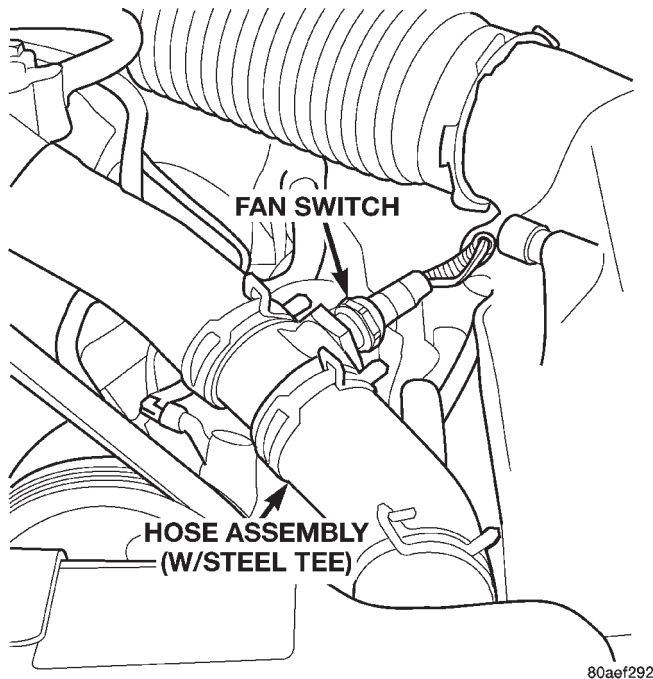
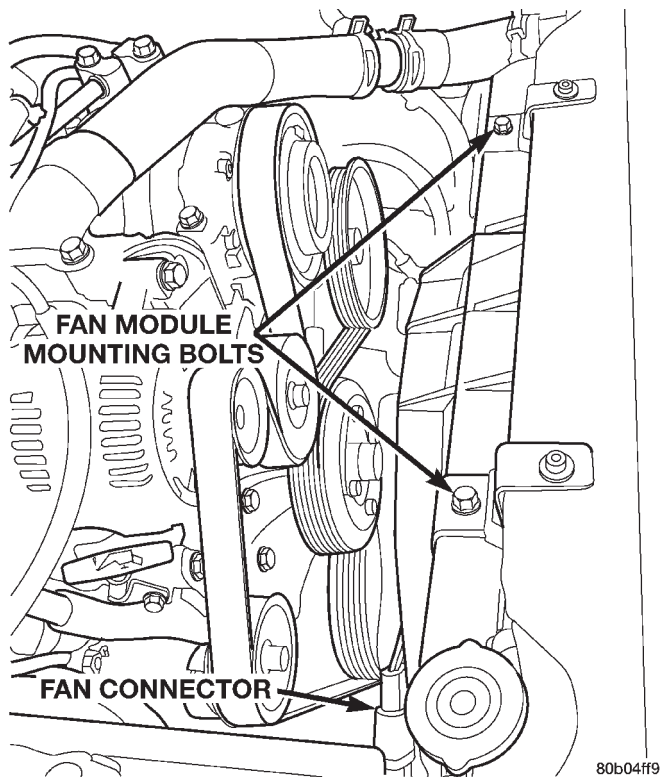

Fig. 69 Upper Hose Coolant Switch
Fig. 70 Fan Module Removal/Installation
(1) Disconnect battery negative cable.
(2) Partially drain cooling system to allow upper radiator hose removal from radiator.
(3) Disconnect upper hose coolant switch connector (Fig. 69).
(4) Remove clamp from upper hose/radiator connection and remove hose from radiator inlet only. Secure hose out of way.
(5) Disconnect the cooling fan electrical connector (Fig. 70).
(6) Remove cooling fan module mounting bolts (Fig. 70).
(1) Lower fan module into engine compartment and into its respective radiator mounts.
(2) Install fan module mounting bolts (Fig. 70) and torque to 16 N·m (140 in. lbs.)
(3) Connect fan module connector (Fig. 70).
(4) Install upper hose to radiator inlet and install clamp.
(5) Connect upper hose coolant switch connector (Fig. 69).
(6) Fill cooling system. (Refer to Filling Cooling System in this Group for the correct procedure.)
(7) Connect battery negative cable.
(8) Start engine and check for leaks. Check cooling fan for proper operation.